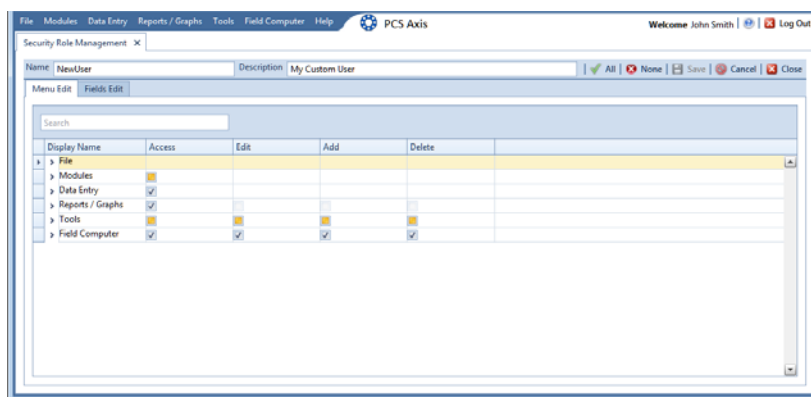

Figure 3-19. Edit Security Role - Menu Edit Tab
- 2 Click the down arrow in the **Role** field and select a custom security role in the selection list. Then click  **Edit** to begin editing permissions (Figure 3-19).